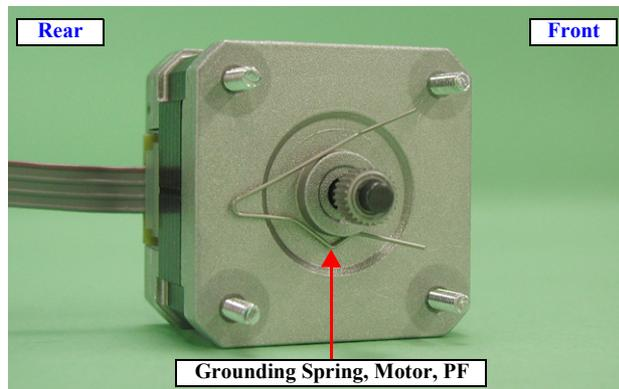

Figure 2-50. Grounding Spring Installation
- Make sure to install the Grounding Spring to the position as shown in Figure2-50.
- Make sure to install the PF Motor to the Frame, Main with the side shown in Figure2-50 facing the frame.